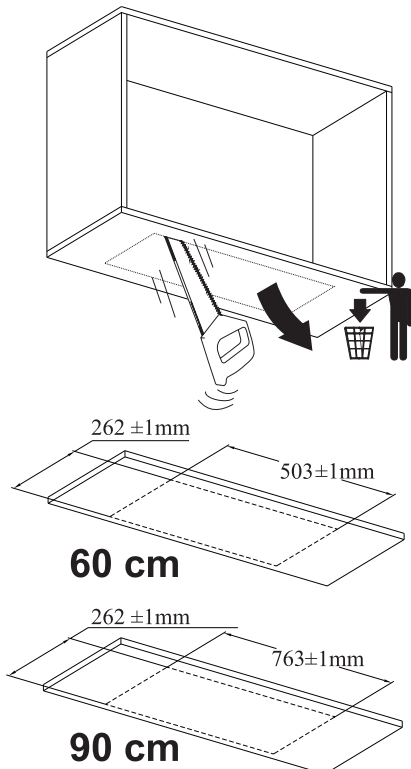

Fig. 14
1. Cut the surface of the hood to be mounted at the specified dimensions. Observe the cutting measurements of the surface where the cooker hood will be mounted on (Fig. 14).